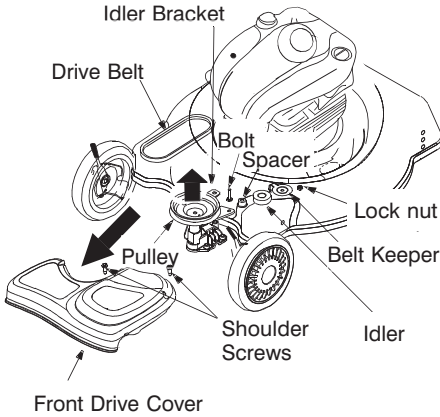

Figure 14
- Remove the two shoulder screws from on top of the deck which secures the front drive cover to the mower deck. See Figure 14.
- Remove the front drive cover from the unit by lightly pressing inward on the sides of the front drive cover. This will release the tabs that secure the front drive cover to the height adjuster brackets. See Figure 14.
- Remove the idler from idler bracket using 7/16" wrench and socket. See Figure 14.
- Remove the belt from the transmission. See Figure 14.